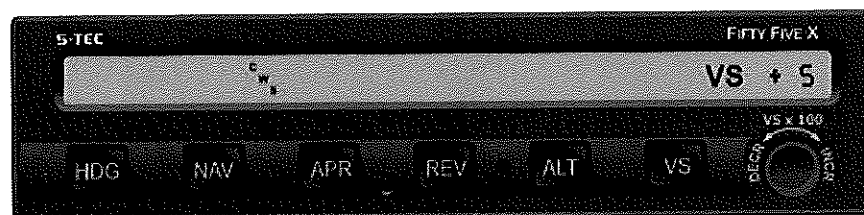

Fig. 2-9. AP Display, CWS Mode Engaged, 500 FPM Climbing (Pre-Flight)
17. Rotate AP Modifier Knob CW until +5 (500 FPM climbing) is commanded, as shown in Fig. 2-9.	A/C Control Wheel moves in aft direction.